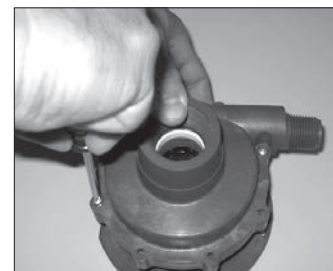

Figure 35
4. Push the housing with o-ring in place straight down to seat the o-ring. Hold the housing in place & reinstall the (8) housing screws (item 7) in a star like pattern using the phillips head screw driver. Hand tighten screws being careful not to over tighten. See figure 35.